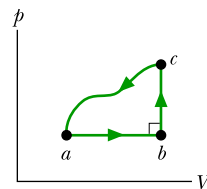

Figure 18.28 Problem 69.
**69** Figure 18.28 displays a closed cycle for a gas. The change in internal energy along path  $ca$  is  $-160\text{ J}$ . The energy transferred to the gas as heat is  $200\text{ J}$  along path  $ab$ , and  $40\text{ J}$  along path  $bc$ . How much work is done by the gas along (a) path  $abc$  and (b) path  $ab$ ?